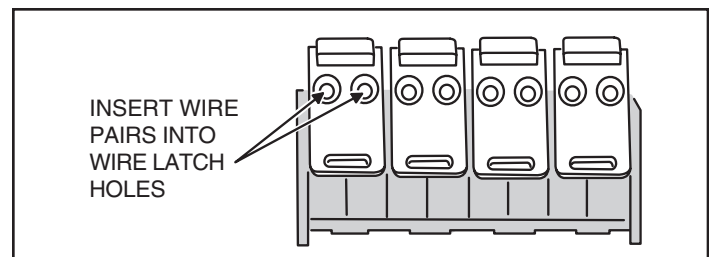

Figure 3. Fully Insert the Wire Pairs
STEP 4 Observing the color code label on the connector, insert a wire pair (solid color and the same color with a white stripe) completely into the two wire holes in the clear plastic wire latch for that pair color. See Figure 3. **BE SURE THE WIRES ARE COMPLETELY INSERTED.**